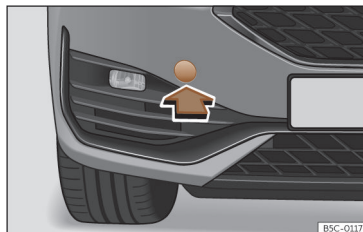

Fig. 215 Front bumper on right: remove the lid.
The housing of the removable towline anchorage is on the right side of the front bumper underneath a cover >>> **Fig. 215**.
- Remove the cover by pressing down on its base and leave it hanging from the vehicle >>> **Fig. 215**.